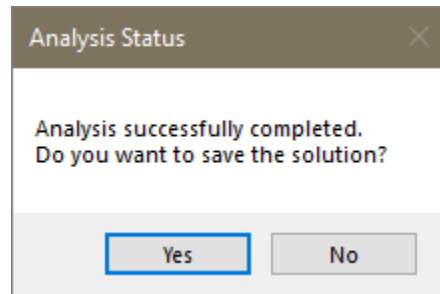

Figure 8-42
- When the analysis completes you will receive the message shown in **FIGURE 8-42**.